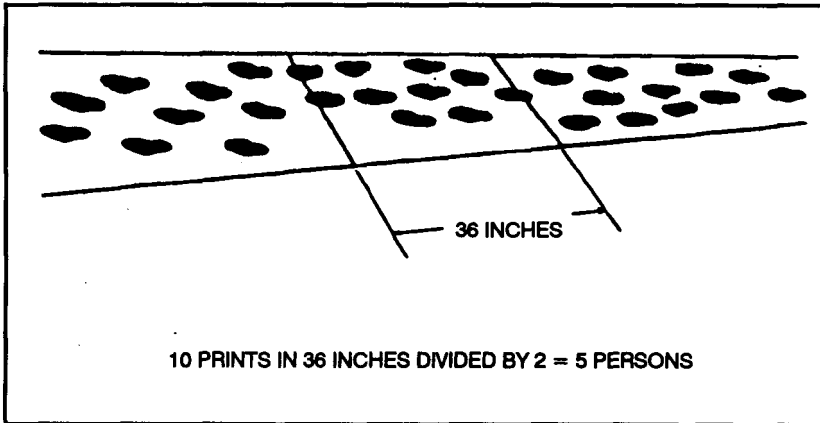

Figure 8-3. 36-Inch box method.
(2) The sniper may also use the the 36-inch box method (Figure 8-3) if key prints are not evident. To use the 36-inch box method, the sniper uses the edges of the road or trail as the sides of the box. He measures a cross section of the area 36 inches long, counting each indentation in the box and dividing by two. This method gives a close estimate of the number of individuals who made the prints; however, this system is not as accurate as the stride measurement.